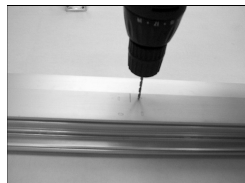

Fig. 3
- C. Use the appropriate drill head to perforate the window frame and assemble the motor support bracket, taking care to tighten all screws well (Fig. 3 and Fig. 3bis).
Fig. 3 bis
- C. Use an appropriately dimensioned drill head to perforate the window frame and assemble the motor support bracket, taking care to fix the screws securely into position (Fig. 3 and Fig. 3bis).